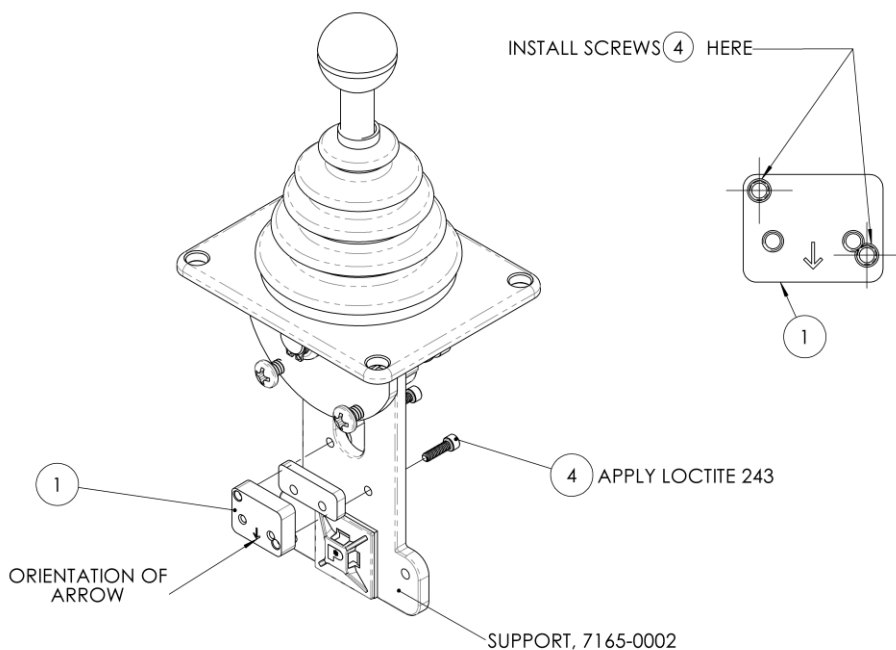

Figure 25: Installation of microswitch bracket, 7165-0011
5. Figure 25 for the next three steps. Note the engraved arrow on the microswitch bracket ① is pointed downwards on the joystick support.
6. Apply Loctite 243(Blue) to the X2 socket head cap screws ④.
7. Install bracket ① with screws ④ onto the joystick support 7165-0002, ensuring the engraved arrow is correctly orientated and the correct holes are used.